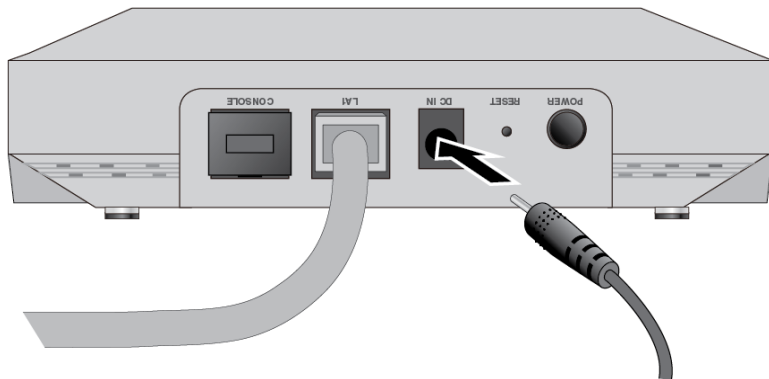

Figure 17. Connecting an AC/DC Power Adapter to the DC Connector
2. Plug the DC cable from the power adapter into the DC connector on the access point. Refer to Figure 17.